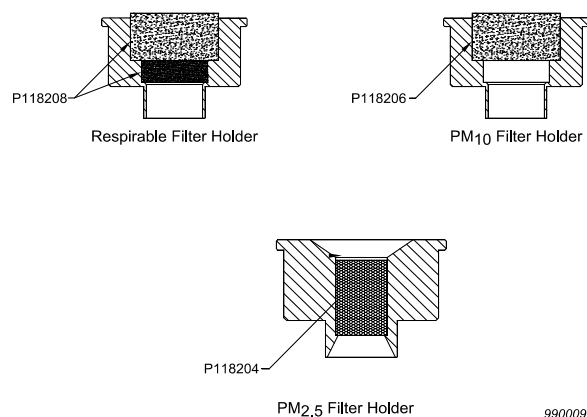

Figure 3 - PUF Filter configurations.
Size selection of the sample stream is performed by passing the sample through a PUF foam filter appropriate to the chosen sampling strategy, (PM₁₀, PM_{2.5} or Respirable). PUF filter adaptors are described in Figures 3 and 4. A nozzle on the mounting block is a push fit into the inlet fitting on the case lid.
Filters should be loaded into the relevant housing as shown in Figure 3,4.
2. Insert the PUF filter foam(s) and in line sample filter (if required) (see figure 3,4).